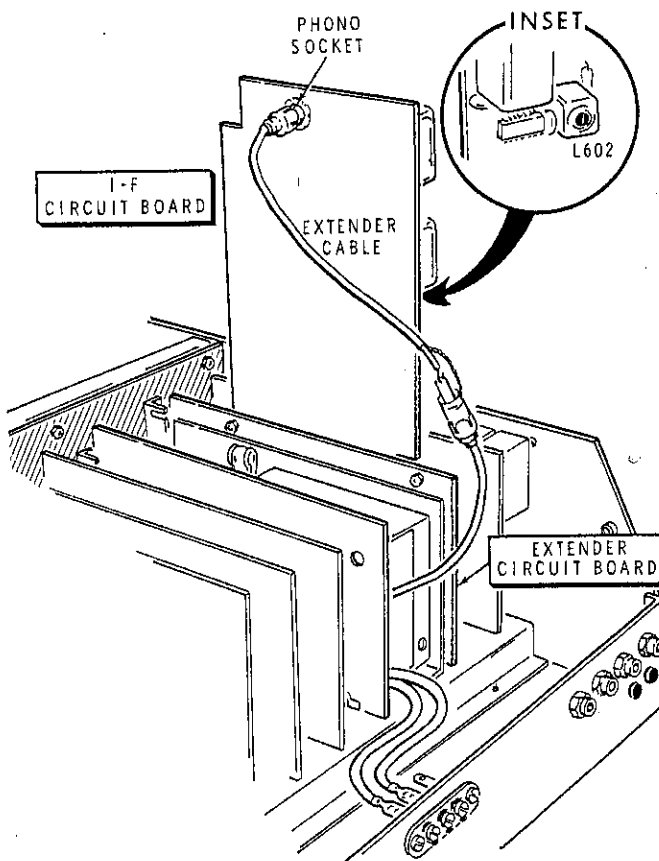

Figure 1-13
- () Refer to Figure 1-13 and install the i-f circuit board on the extender circuit board.